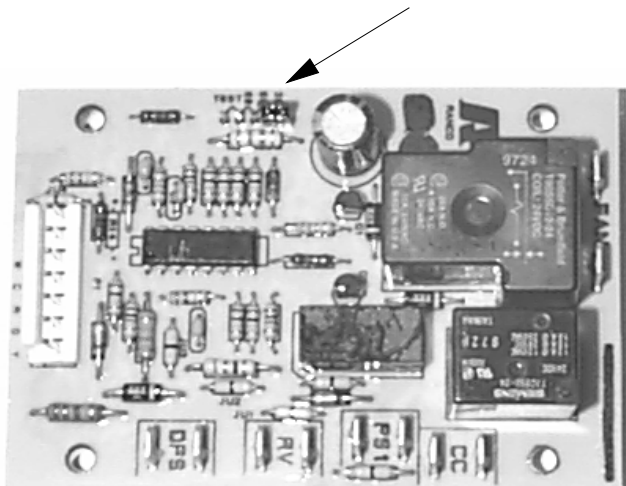

Figure 5
2. Move the defrost time adjustment pin from 90 minutes to 60 minutes or 30 minutes as required (refer to Figure 5).